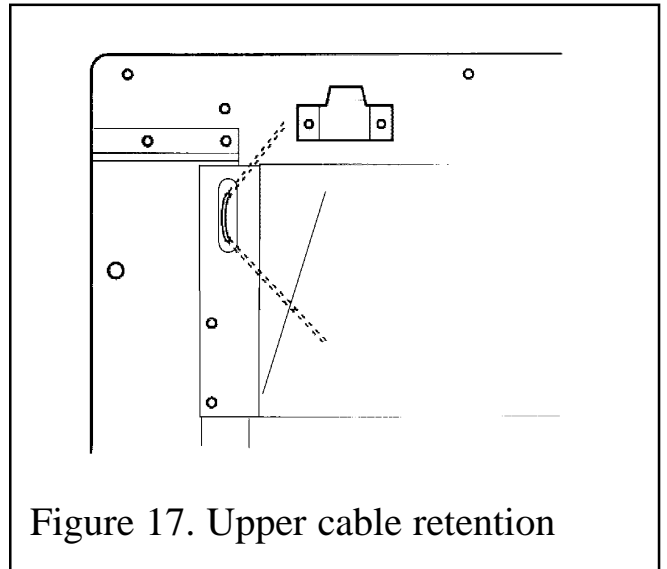

Figure 17. Upper cable retention
5. The hotbox has two holes at each side of the spillage plate. Insert one end of each cable (one cable each side) from the back through the lower of the two holes and return the end through the upper of the holes (See figure 17). Give the cables a pull so that they grip against the hotbox flanges.